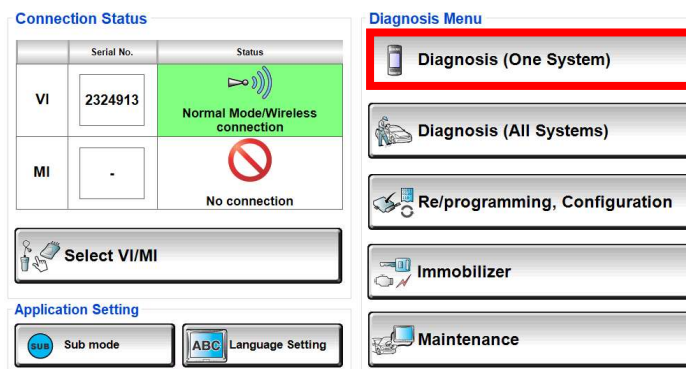

Figure 38
41. Select **Diagnosis (One System)**. (Figure 38)